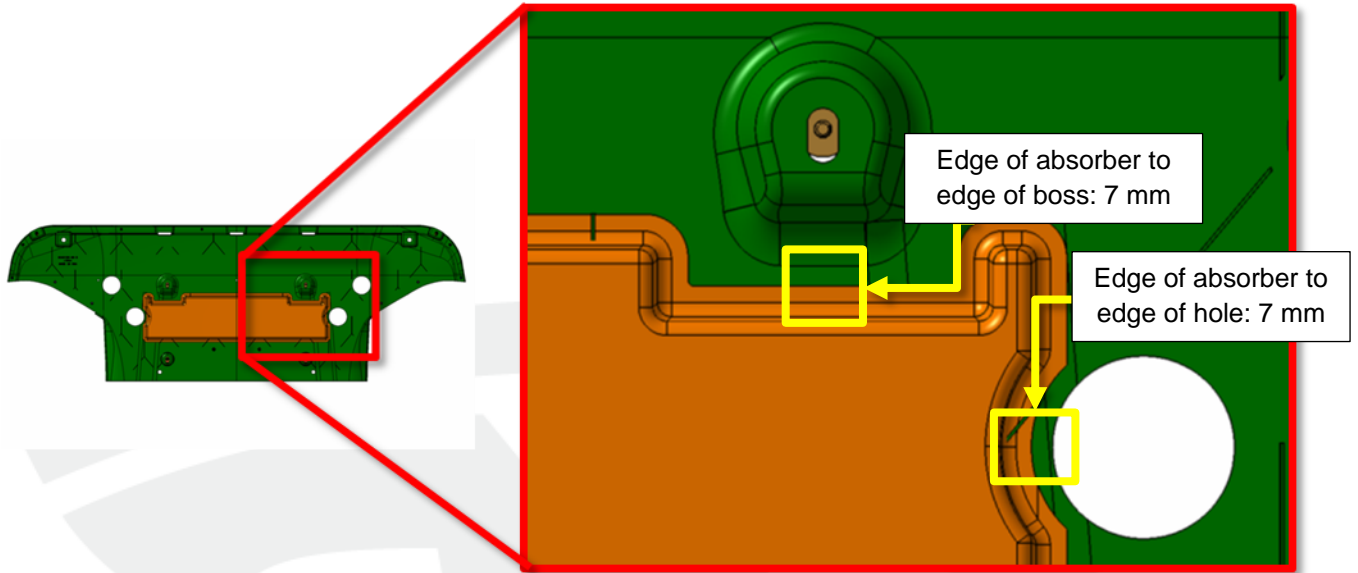

Figure 8 (acoustic absorber highlighted)
16. Remove the backing from the new aero shield acoustic absorber and press it onto the aero shield. Use the guidelines in Figure 8 to accurately align the absorber.